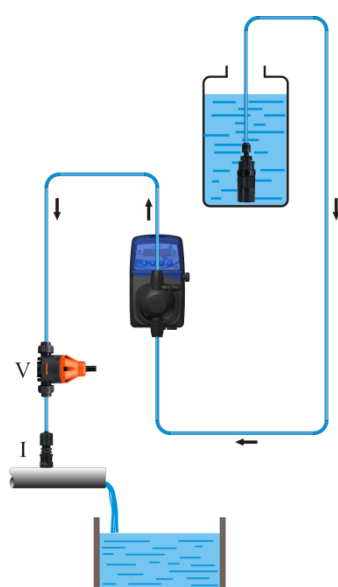

Figure 2
- If the system to be treated works at atmospheric pressure and the chemical tank must absolutely be positioned higher than the injection point (Figure 2), periodically check the functionality of the injection valve (I), as its excessive wear could lead to unintentional injection of the chemical into the plant due to gravity (even with the dosing pump stopped). If the problem persists, insert a counter-pressure valve (V) correctly calibrated between the dosing pump and the injection point.